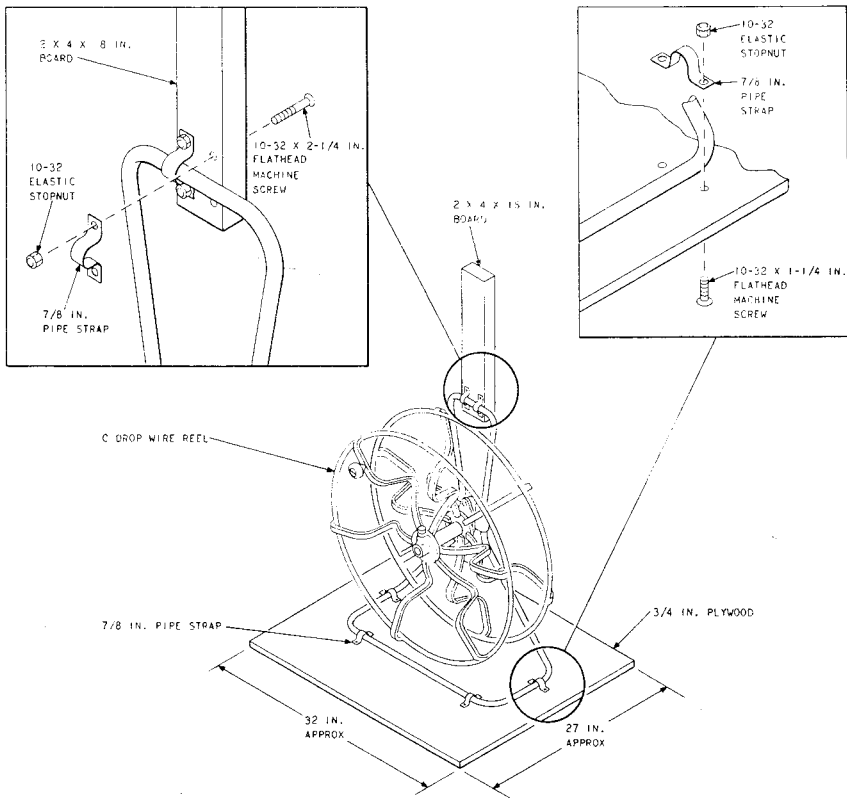

Fig. 2—Modified C Drop Wire Reel
2.03 The C Drop Wire Reel may be modified for re-use of B Fishline (Fig. 2) in the pneumatic duct rodding operation.